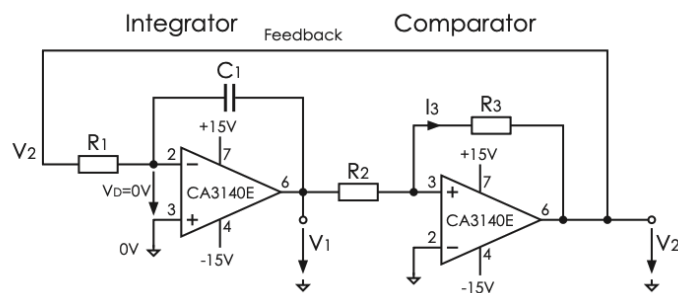

Figure 10: Oscillator consisting of an integrator and a comparator.
- f) Now connect the complete circuit as shown in Figure 10. Measure V_1 and V_2 and sketch them as functions of time. Do the curves agree with your prediction from e)? Do the frequency and the amplitude of V_1 agree as well?